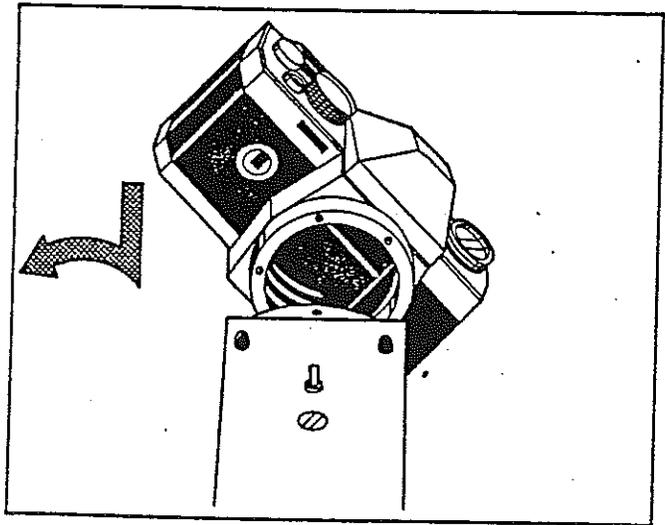

Fig. 3
- (f) Mount a 35 mm SLR camera in place at the rear (Fig. 3). Connect the 3 mm coaxial flash lead from the Zeiss photo-slit lamp to the camera body. Set shutter for flash (i.e. 1/60th sec exposure and 'X' synchronisation).